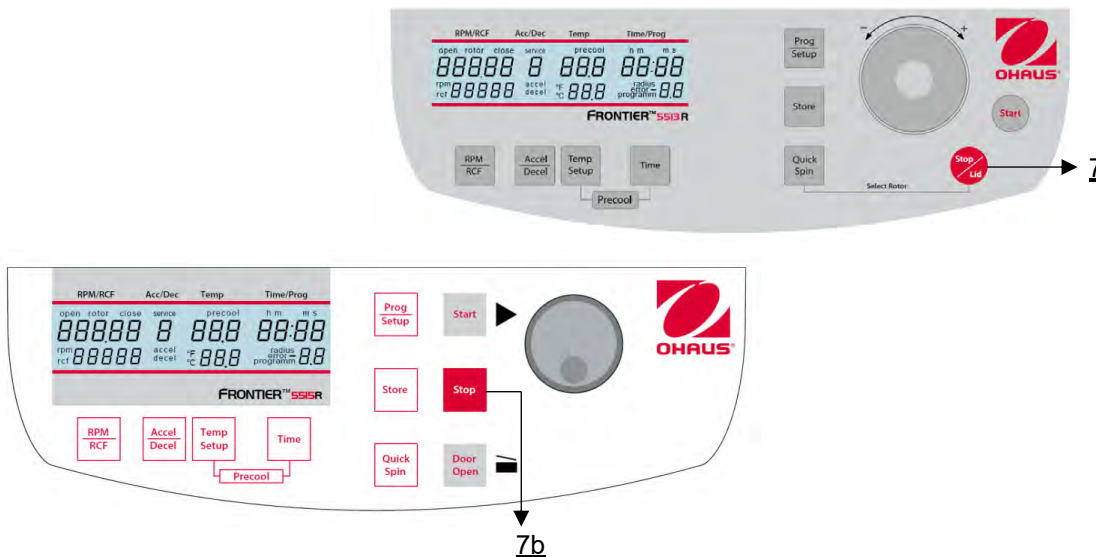

Figure 23
By the "Stop" (7b) or "Stop/Lid" key (7) (see Figure 23) you can interrupt the run at any time. After pressing the key, the centrifuge decelerates with the respective pre-selected intensity down to stand still.